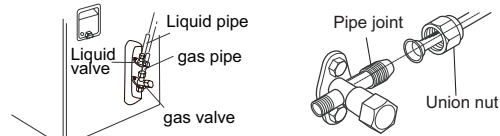

Fig. 22
- (2) Remove the screw cap of valve and aim the pipe joint at the bellmouth of pipe.(As show in Fig.22)